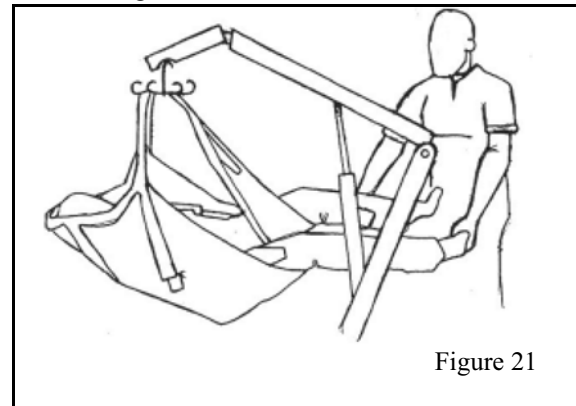

Figure 21
- 9 Continue raising resident/patient until feet can clear the base of lift. If appropriate, turn resident/patient in direction of travel (See Figure 21).